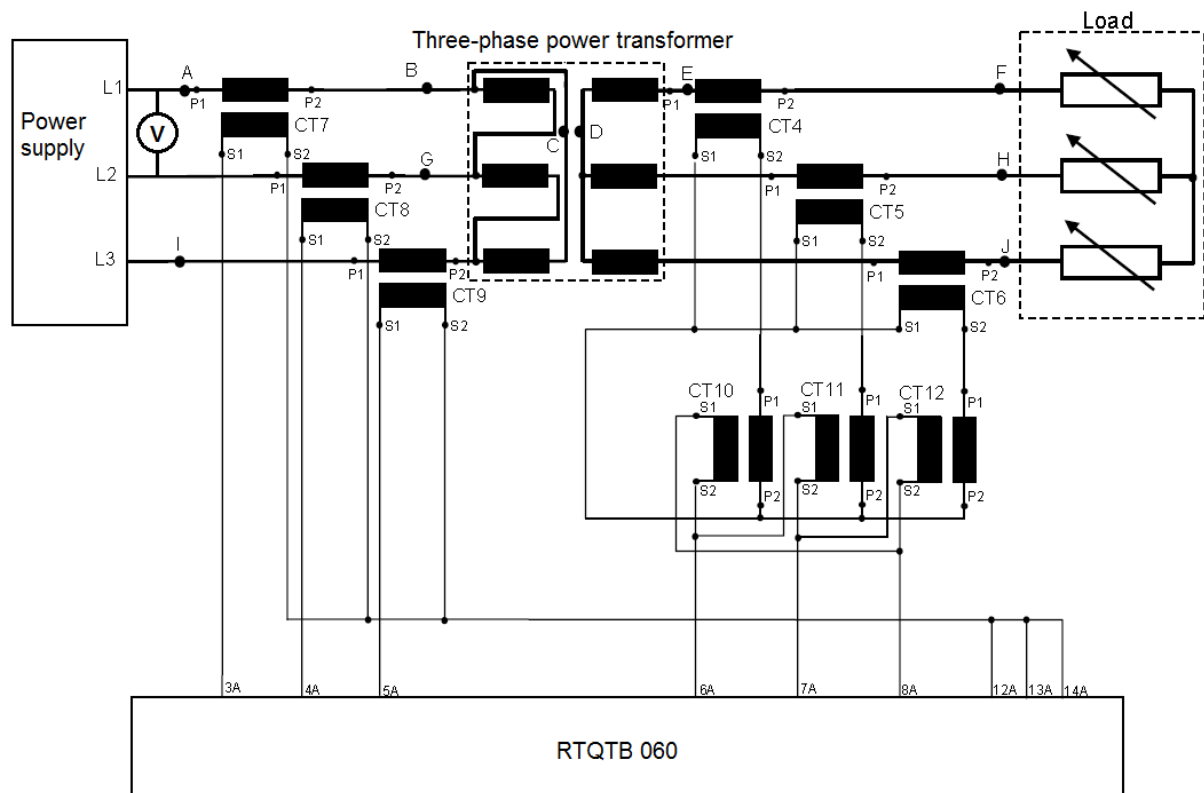

Figure 7: Differential relay protection on three-phase power transformer with ΔY -connection
2. Continued from TEST 2, connect the circuit according to Figure 7. Set the connection around CT10-CT12 according to Figure 7.